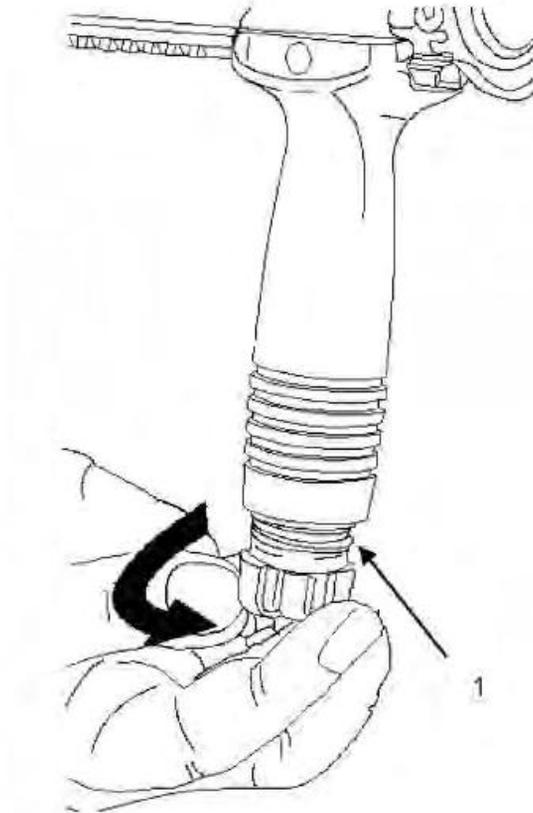

Figure 10. O-Ring Clutch on Hand Grip.
5. Tighten the O-ring clutch (Figure 10, Item 1) on the bottom of the forward hand grip by turning in a clockwise (CW) direction.